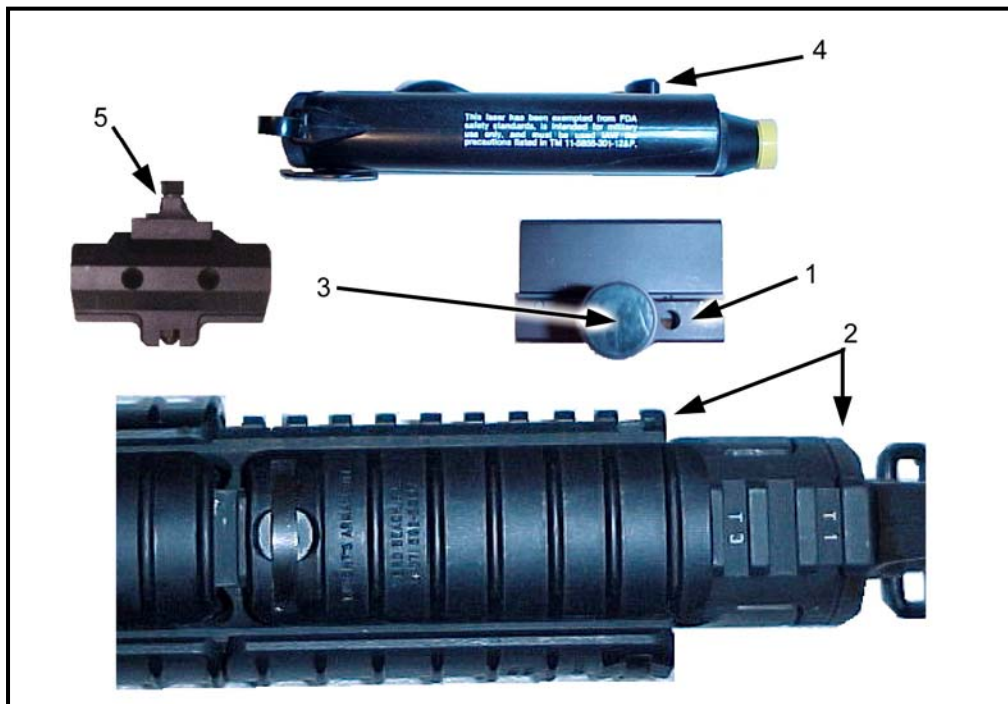

Figure 2-29. Mounting the AN/PAQ-4B/C on the MWS top or left.
b. **M16A4/M4 MWS Weapons** (Figure 2-29, page 2-20). The Picatinny rail grabber (1) or the insight rail grabber (5) is used to mount the AN/PAQ-4B/C to the RAS. Mount the rail grabber all the way forward on the top or either side of the RAS (2) ensuring it does not extend beyond the end of the RAS. (The AN/PAQ-4B/C will not retain zero if the rail grabber extends beyond the end of the integrated rail when mounted.) Tighten the torque-limiting knob (3) until it clicks twice. Align the thumbscrew (4) on the AN/PAQ-4B/C with the thumbscrew hole in the rail grabber nearest the muzzle. The mounting procedures are identical for the M16A4 and M4-series MWS. The remote switch should be attached to the weapon where it is most convenient for the firer without interfering with the functioning of the weapon or hindering the firers' ability to fire the weapon. If the aiming light and rail grabber are removed as a whole unit and mounted onto the same rail, the system will retain zero. If the rail grabber and AN/PAQ-4B/C are separated, the AN/PAQ-4B/C must be rezeroed to the weapon. (For further information refer to TM 11-5855-301-12&P.)